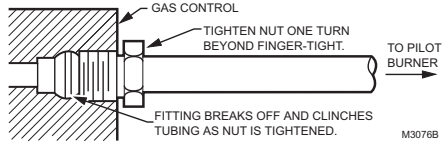

Fig. 6. Always use new compression fitting.
- Push tubing into the pilot gas tapping on the outlet end of the control until it bottoms. While holding tubing all the way in, slide compression fitting into place and engage threads—turn until finger tight. Then tighten one more turn with wrench. Do not overtighten. Refer to Fig. 6.